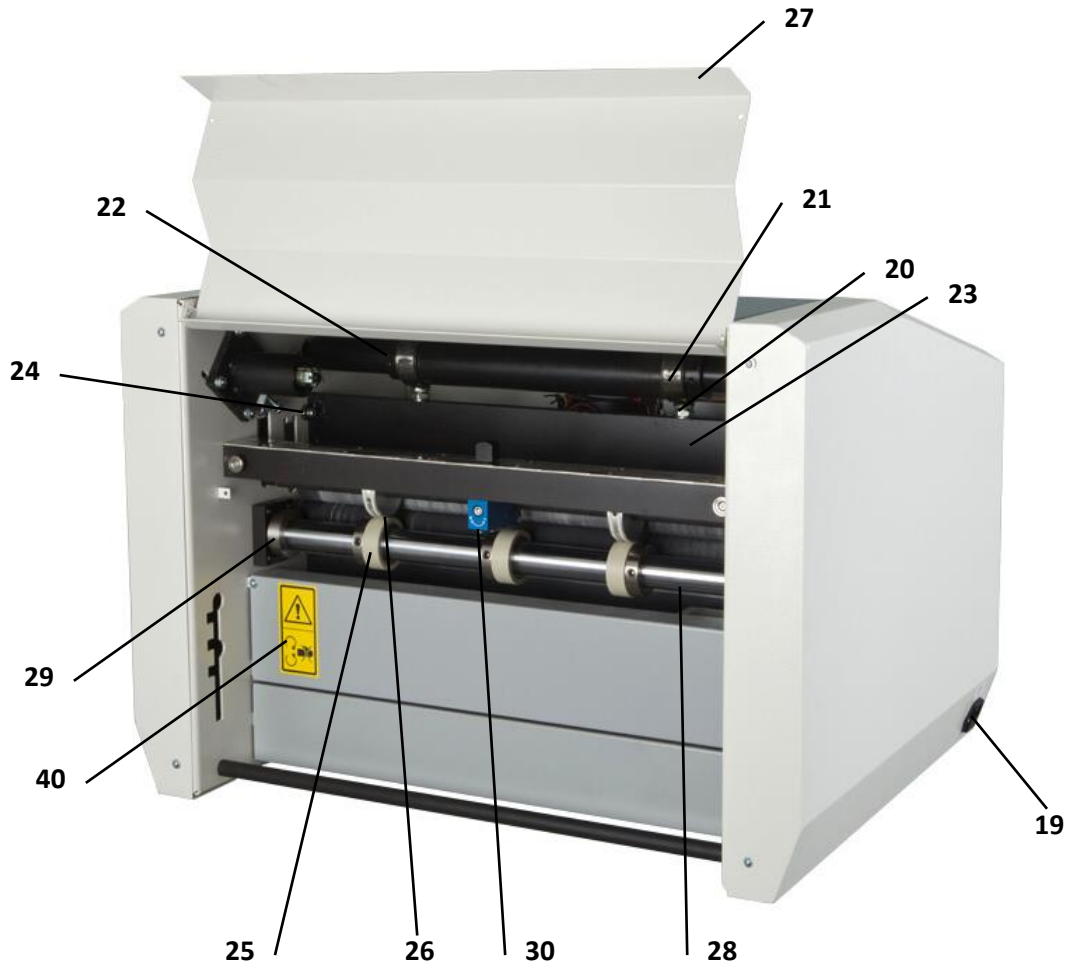

Fig. 2: Rear View of the Machine
| 7 – Delivery table | 19 – Plug socket (Fig. 2) |
| 8 – Table position regulation screw | 20 – Tool thrust regulation screw (Fig. 2) |
Alternatively, you may remove the whole shaft (28) and add or remove pulleys as required. In order to remove the shaft, use an Allen key to loosen the screw on the fixing sleeve (29 – Fig. 2) and push the sleeve aside. Then move the whole shaft to the left (in the direction of the side of the machine) and remove the shaft from the machine. Before you do so, make sure the perforating (cutting) wheels are placed in the non-working position!!!